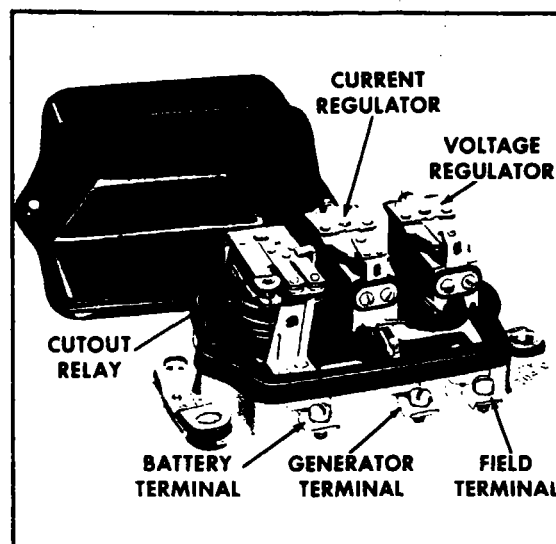

Figure 11-4. Current/Voltage Regulator
11-25. **DESCRIPTION OF REGULATOR.** The regulator shown in Figure 11-4 consists of a cutout relay, a voltage regulator and a current regulator unit. The cutout relay closes the generator to battery circuit when the generator voltage is sufficient to charge the battery, and it opens the circuit when the generator slows down or stops. The voltage regulator unit is a voltage-limiting device that prevents the system voltage from exceeding a specified maximum and thus protects the battery and other voltage-sensitive equipment. The current regulator unit is a current-limiting device that limits the generator output so as not to exceed its rated maximum.
a. The cutout relay (Refer to Figure 11-4.) has two windings, a series winding of a few turns of heavy wire and a shunt winding of many turns of fine wire (shown in dashed lines). The shunt winding is connected across the generator so that generator voltage is impressed upon it at all times. The series winding is connected in series with the charging circuit so that all generator output passes through it. The relay core and windings are assembled into a frame. A flat steel armature is attached to the frame by a flexible hinge so that it is centered just above the stationary contact points. When the generator is not operating, the armature contact points are held away from the stationary points by the tension of a flat spring riveted on the side of the armature.
a. The voltage regulator (Refer to Figure 11-4.) has two windings assembled on a single core, a shunt winding consisting of many turns of fine wire
a. The current regulator (Refer to Figure 11-4.) has a series winding of a few turns of heavy wire which carries all generator output. The winding core is assembled into a frame. A flat steel armature is attached to the frame by a flexible hinge so that it is just above the core. The armature has a contact point which is just below a stationary contact point. When the current regulator is not operating, the tension of a spiral spring holds the armature away from the core so that the points are in contact. In this position the generator field circuit is completed to ground through the current regulator contact points in series with the voltage regulator contact points.